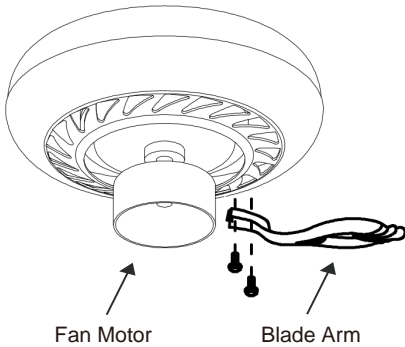

Fig. 1
Step 3. Attach the arms onto the motor with the screws taken off (Fig. 1).